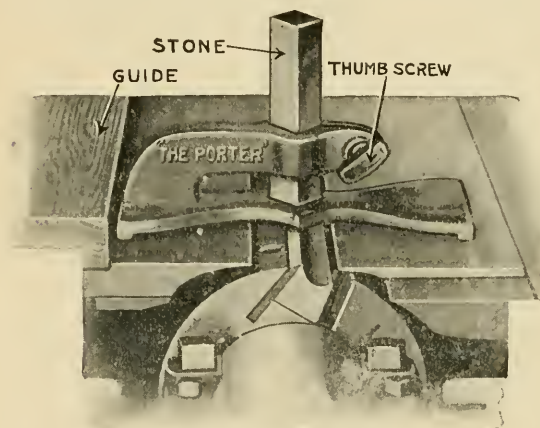

FIG. 11—JOINTING DEVICE
ing. After grinding, it is necessary to set the knives very carefully. To get them quite true, place a try square on the back table so that the end of the blade projects out over the knife----- test in this manner for the entire length of both blades, and tighten very securely. Then joint, by using the device shown in Fig. 11.
Preparatory to ripping stock which is the simplest operation on the circular saw (1) make sure that you have the rip saw and that it projects through the table only as far as necessary for the stock which you are going to rip. (2) Make sure that the fence is adjusted for the proper width. Use the scale on the top of the table which is shown in Fig. 11 for adjusting the fence. When you have it approximately adjusted tighten the clamp and then make the adjustment exact by means of